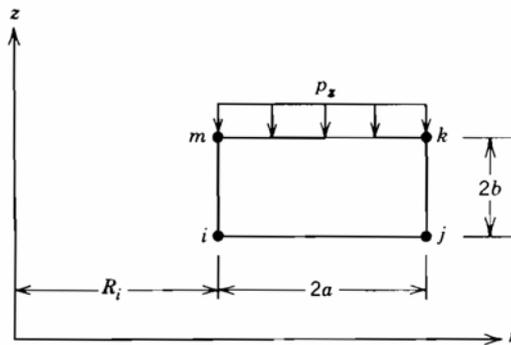

Figure 9
3. Evaluate $\{f_p^{(e)}\}$ for the surface stress p_z shown acting on the rectangular element in Figure 9.